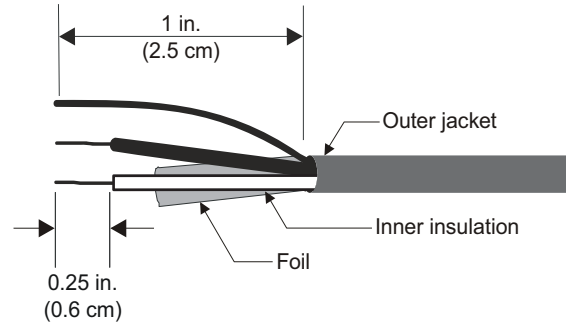

Fig. 4 — Preparing Communication Cable Wires
1. Partially cut, then bend and pull off 1 in. of the outer jacket of the cable(s). Do not nick the inner insulation. See Fig. 4.
2. Strip about 0.25 in. (0.6 cm) of the inner insulation from each wire. See Fig. 4.